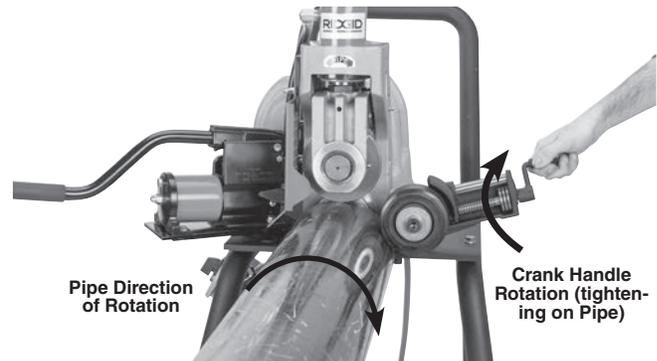

Figure 15 – Offsetting the Pipe 1/2°, (Exaggerated)
3. Rotate the stabilizer crank handle to bring the roller in contact with the pipe. Rotate the crank handle an additional one (1) turn to preload the roller against the pipe (*Figure 15*). Do not reach across the pipe to adjust the stabilizer.
4. Assume a proper operating position to help maintain control of the machine and pipe (*See Figure 15*).